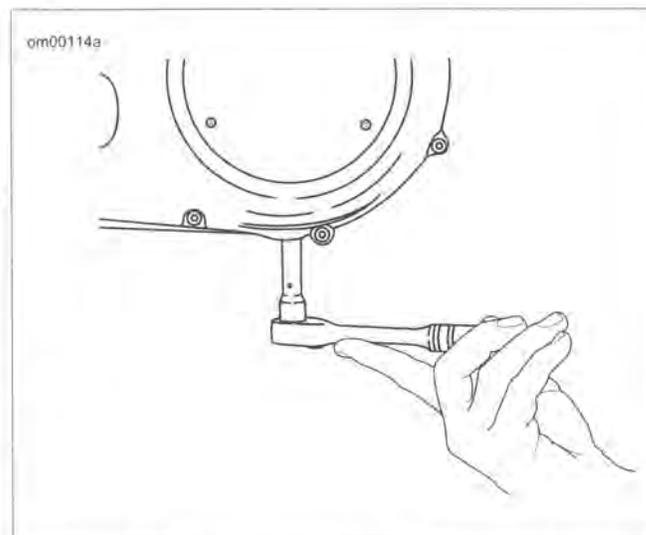

Figure 1-12. Removal/Installation of Chaincase Drain Plug
2. See Figure 1-12. Drain lubricant into suitable container.